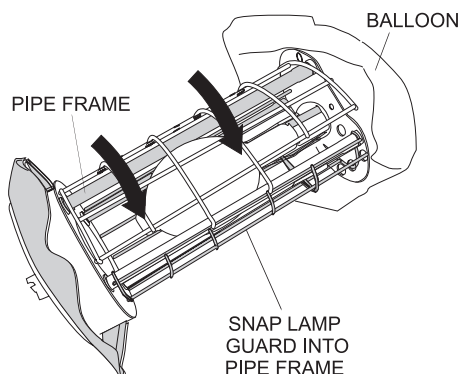

Figure 28. Installing the Lamp Guard
1. Reinstall the lamp guard (Figure 28). Be careful not to install the lamp guard in the wrong direction.